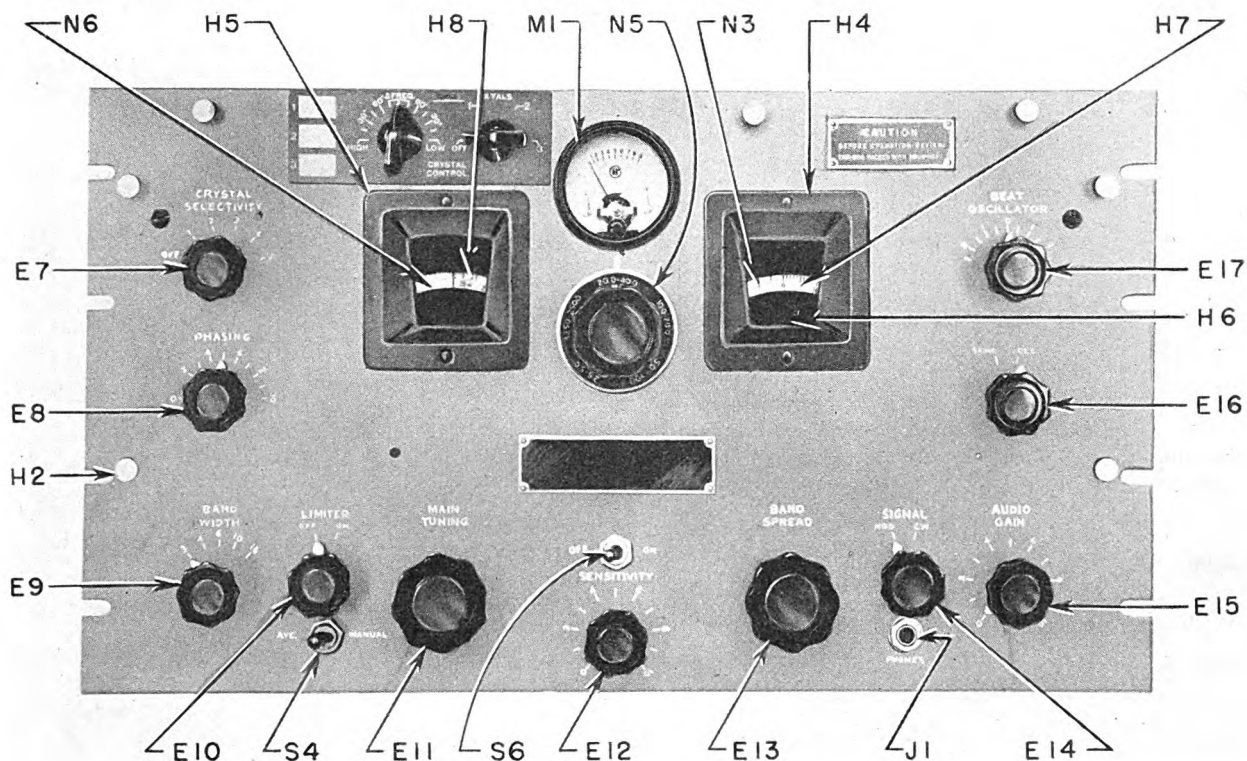
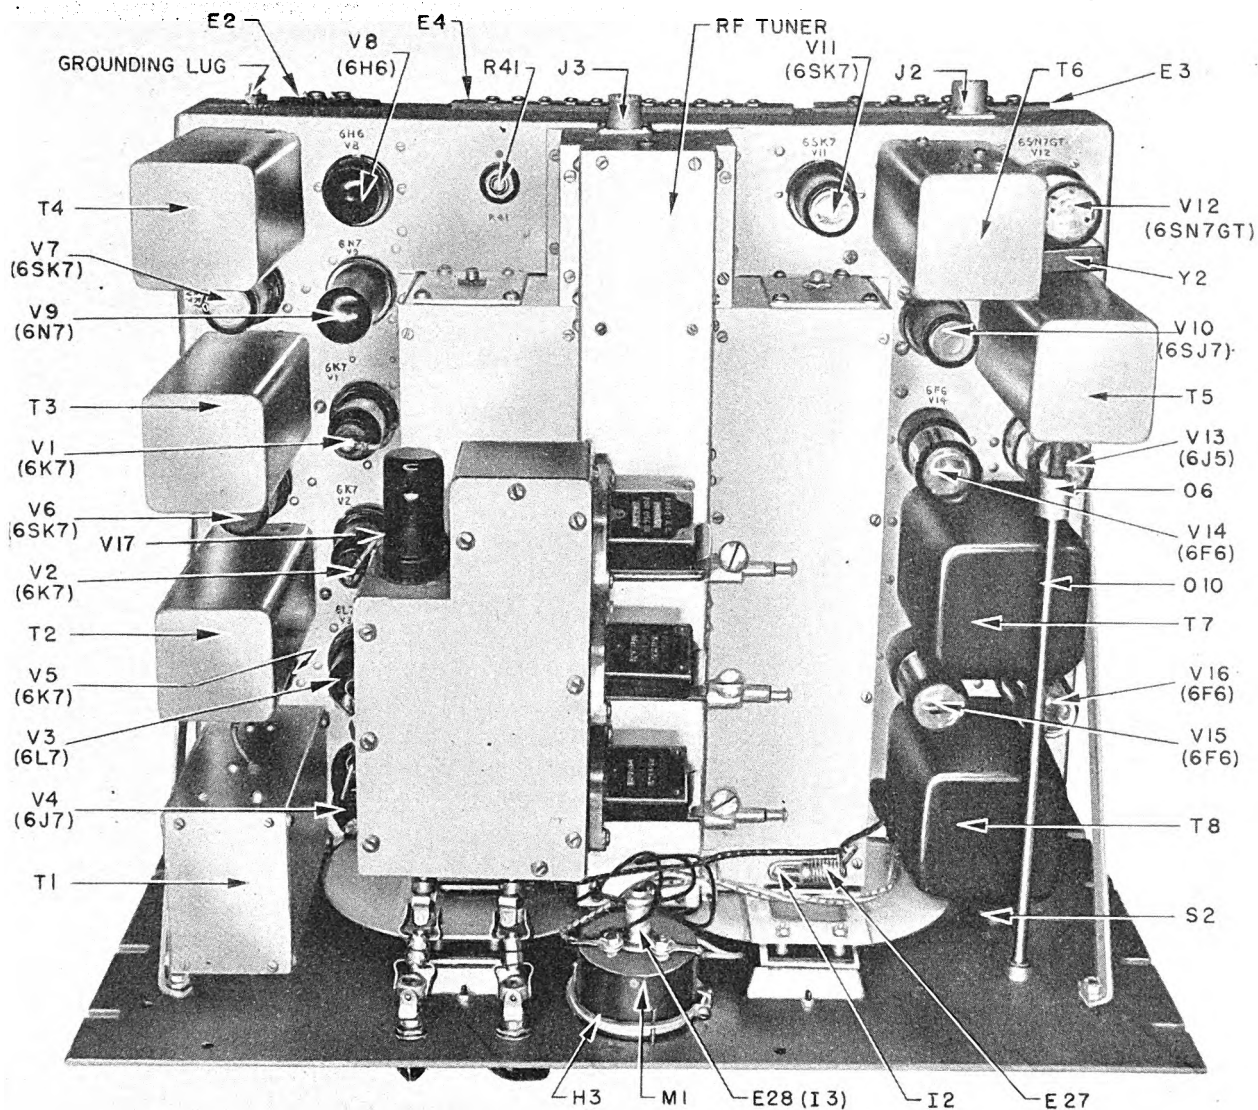

Figure 5. Radio Receiver R-270/FRR, front view.
Figure 6. Radio Receiver R-270/FRR, top rear view.
b. RADIO RECEIVERS R-270/FRR (figs. 5, 6, and 7). The circuits and mechanical arrangement of receivers A and B are identical. All
operating controls are mounted on the unit front panel (fig. 5). All power, input, and output signal connections are made to the rear of the chassis (fig. 6).